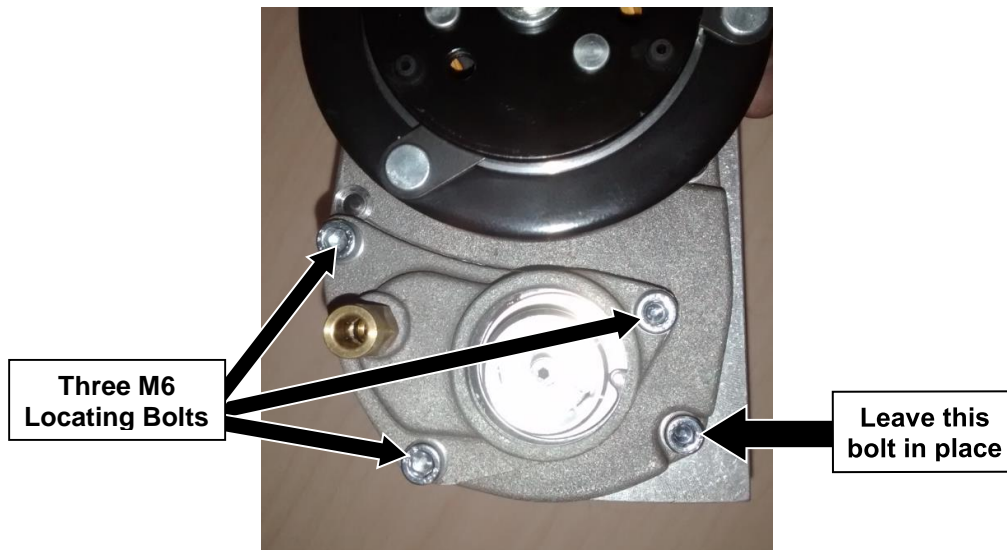

Figure 4
- ☐ On the front of the compressor, locate and remove the three M6 bolts used to retain the air inlet cover assembly to the compressor body. (Figure 4)